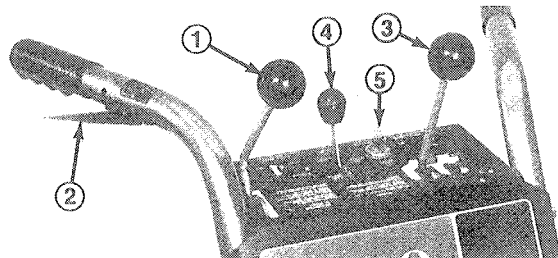

Figure 15
Auger Drive Control (Fig. 15) — Control has two positions: ENGAGE and DISENGAGE. To engage auger and impeller, push control forward until it stops in an over center position. To disengage auger and impeller, pull control backward.
Interlock Lever (Fig. 15) — Interlock lever must be compressed against right handle grip when auger drive or wheel drive control is engaged. The engine will shut off if lever is released when auger drive or wheel drive control is engaged. This is a safety feature that reminds the user to disengage auger drive and wheel drive controls before leaving operator's position behind the handles.
Wheel Drive Control (Fig. 15) — The control has seven positions: N—neutral (2), R1 and R2—reverse, 1, 2, and 3. To change speeds, move gear shift to position desired. Control must be held in R—reverse —when backing and when it is released, gear shift automatically returns to neutral. Use positions 1, 2, and 3 depending on snow conditions. Keep interlock lever compressed when shifting.
Throttle (Fig. 15) — Moving the throttle forward increases engine speed.
Ignition Switch (Fig. 15) — Switch has two positions: ON and OFF. Rotate key to ON before starting engine with the recoil starter. To stop engine, rotate key to OFF.